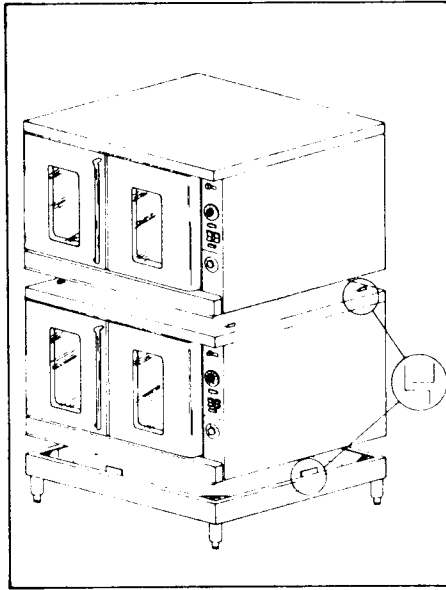

Fig. 4
Turn modular stand frame upside down. Insert a leg into each socket (4) and firmly tighten all wing screws. Set modular stand in desired location of oven. Place bottom oven section on stand and position oven so that locator tabs on stand engage oven bottom frame. Place top oven section on lower unit and position so that locator tabs on lower unit engage oven bottom frame. (See Fig.4)